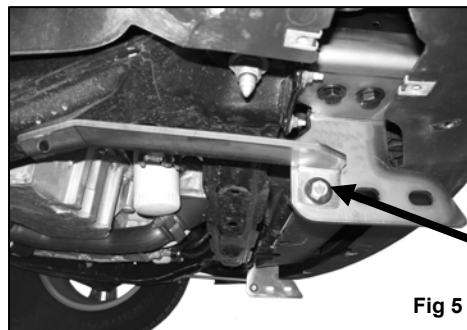

Fig 5
9. Locate passenger side Support Bracket and attach it to rear hole on the previously attached Mounting Bracket using the included (1) 10-1.50mm x 30mm Hex Head Bolt, (1) 10mm Nylock Nut, and (2) 10mm Flat Washers (Figure 5). Do not tighten at this time.